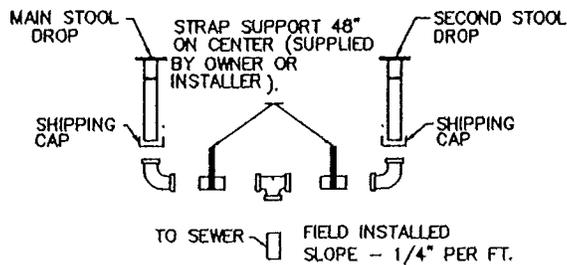

FIGURE 3-3
**3-5.3** The drainage system must be properly supported to ensure proper slope and to eliminate any damage to the system or the possibility of a low spot developing which could cause the waste to back up. The supports must be located a maximum of 48 inches on center. Straps used to support the drain from the floor of the home must be at least 3/4 inches in width, .020 inches in thickness, and must be made to resist corrosion. Other approved hangers and supports may also be used in accordance with their listings (See Figures 3-3, 3-4 & 3-5, and any instructions which may have been supplemented into the rear of this manual).